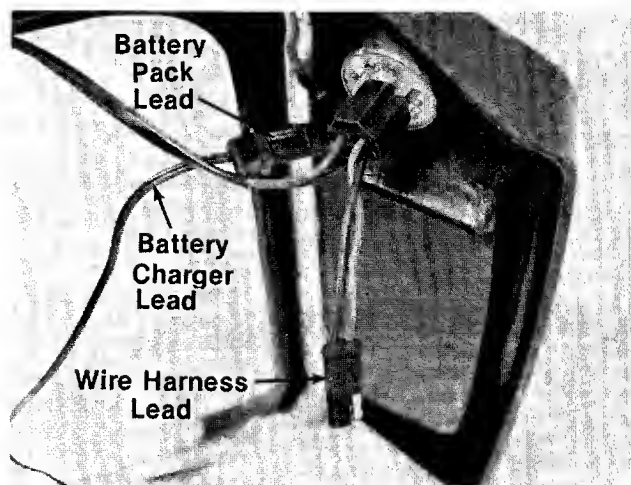

FIGURE 15.
- A. Unplug the wire harness from the battery pack. See figure 15.